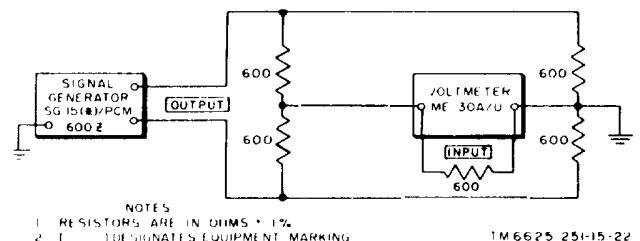

Figure 7-15. Signal Generator SG-15(*)/PCM, test circuit for adjusting longitudinal output.
b. Use Voltmeter ME-30A/U and the five 600-ohm precision resistors to connect the signal generator into the test circuit shown in figure 7-15.